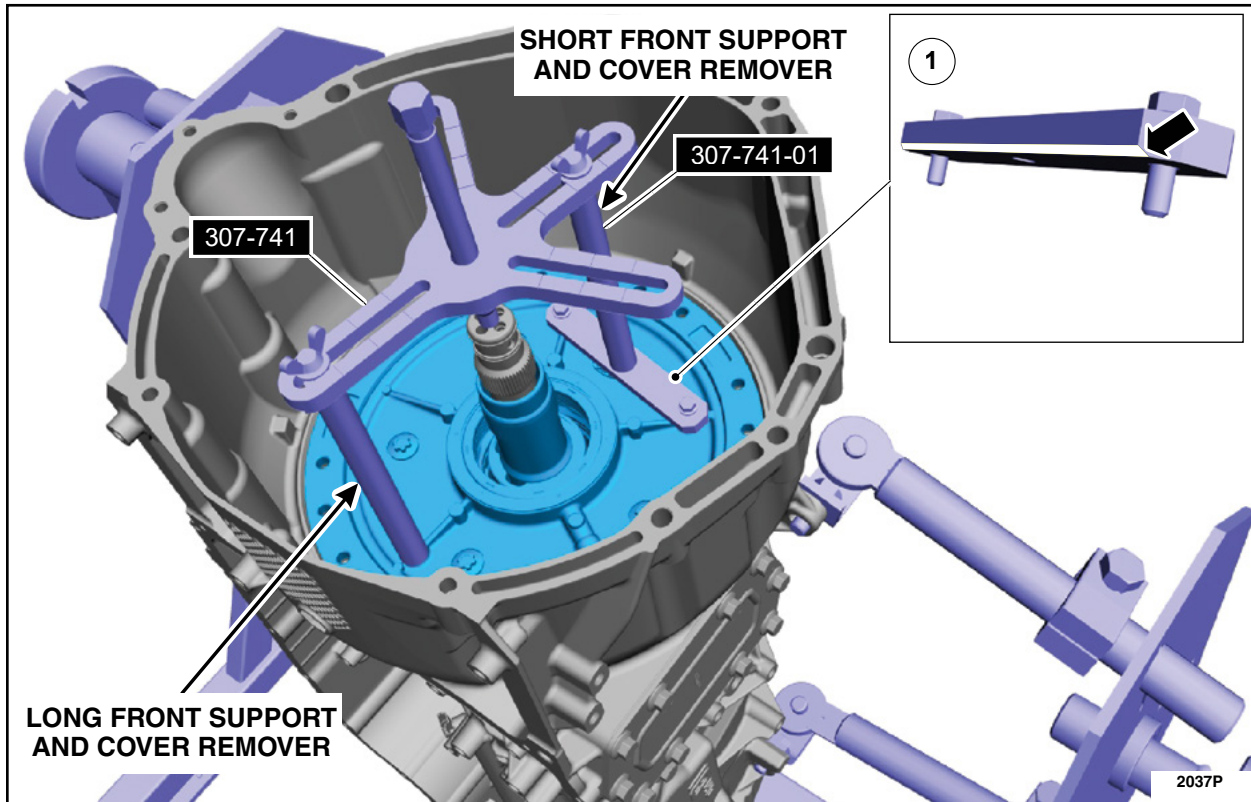

FIGURE 9
11. Using special tool 307-741 and 307-741-01, separate the front support assembly from the transmission case and remove the final support assembly. Remove special tools 307-741 and 307-741-01. See Figure 9.